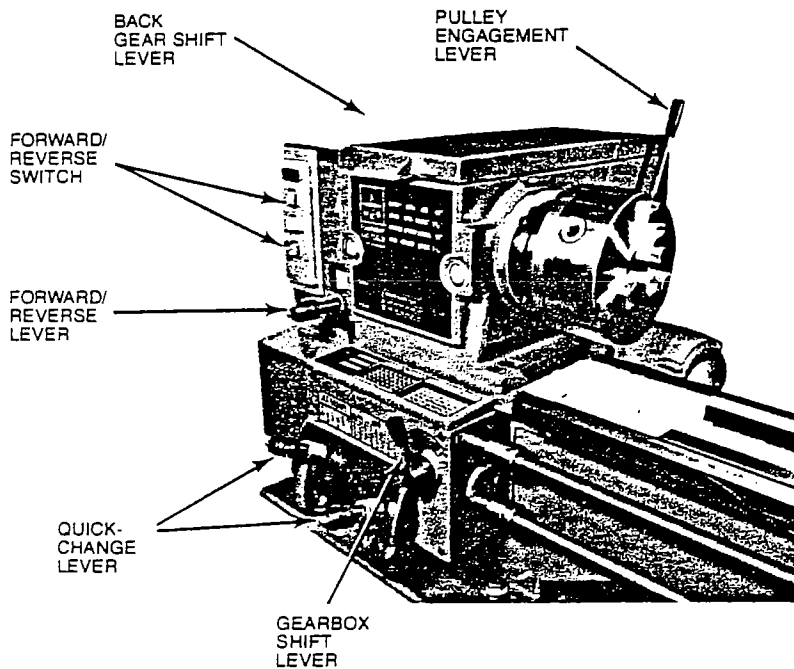

FIGURE 13
HEADSTOCK CONTROLS (Figure 13)
2. Pull headstock pulley engagement lever (Figures 13 and 17) forward to loosen belt tension.
4. Engage gears by pulling the back gear lever up and forward (Figures 13 and 17) until pin on lever drops into locking hole.
For proper feed rate setup, position two quick-change levers into index holes, shown in Figure 13. Refer to feed and thread data above levers (Figures 18 and 23). The top diagonal of the data plate is for the longitudinal feed; the lower diagonal is for cross feed. Engage feedrod by pulling gearbox shift lever to left.